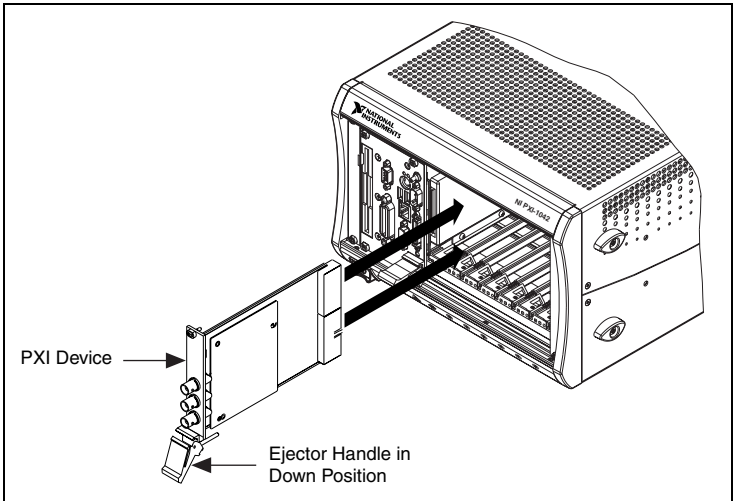

Figure 1. PXI Installation
To install the module, refer to Figure 1 and complete the following steps:
5. Ensure that the ejector handle is in the unlatched (downward) position, as shown in Figure 1.